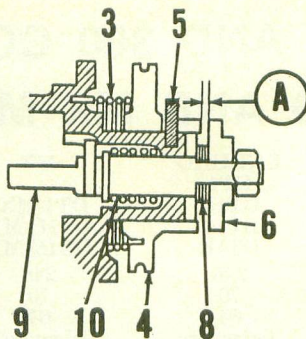

Fig. Y9-6—Clearance (A) should be 0.20-0.25mm and is adjusted by varying shims (8).
The pump must be correctly adjusted to provide the correct amount of oil for proper lubrication. Adjustment should be checked every 2,000 miles. To adjust, proceed as follows: Check the plunger minimum stroke by turning the starter plate (16) until clearance between pulley and adjusting plate is at its minimum, then measure clearance (A—Fig. Y9-6) with a feeler gage. If clearance is not within limits of 0.20-0.25mm (0.008-0.010 in.), vary the number of shims (8). Turn the throttle hand grip just enough to take up free play from the throttle cables (without changing idle speed) and check the oil pump setting mark and guide pin as shown in Fig. Y9-5. If the mark (1) is not exactly aligned with guide pin (2), loosen the lock nut and turn the pump cable adjuster (3) as required to align.